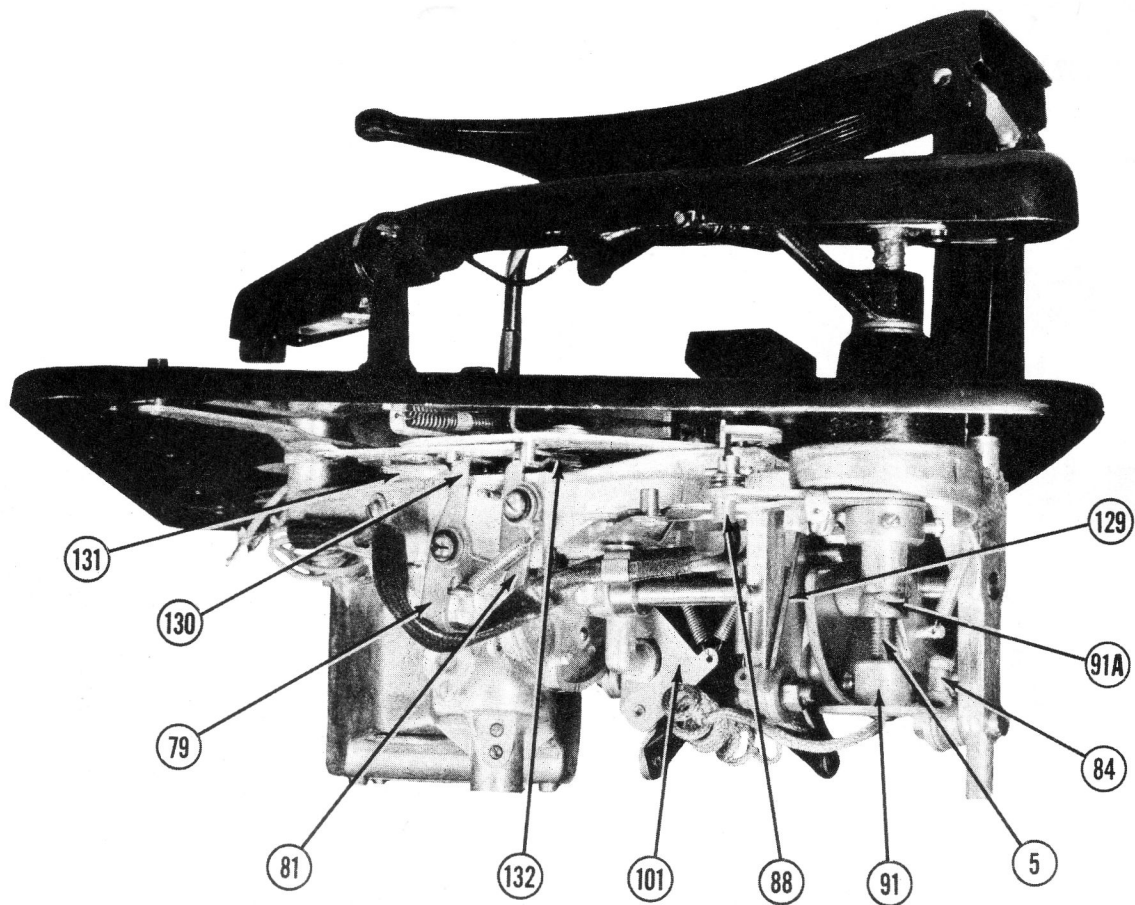

FIG. 4—RIGHT SIDE VIEW
1. By moving the switch control lever (49) to the "Start" or "Reject" position, the switch link (50), which is connected to the control lever, is moved against the stud of the switch lever unit (53). This actuates the switch unit which, in turn, engages the switch (54) and starts the motor assembly. The switch lever unit is latched in position by the release lever (51).
At the same time, the stud and finger of the switch link (50) contacts and moves the shutoff clutch lever (79) and the clutch tripping link (130) (seen in Fig. 4) from in front of the clutch lever (97). The shutoff lever (79) is latched in an outward position during the automatic operation by the shutoff clutch latch lever (81).
NOTE: If the mechanism has been stopped automatically, the clutch lever (97) will be blocked by the shutoff clutch link (79). If in playing operation (at the end of a cycle), the clutch lever will be blocked by the clutch tripping link (130). See Fig. 4.
1. Spring (131) of the clutch tripping link missing. Fig. 4.